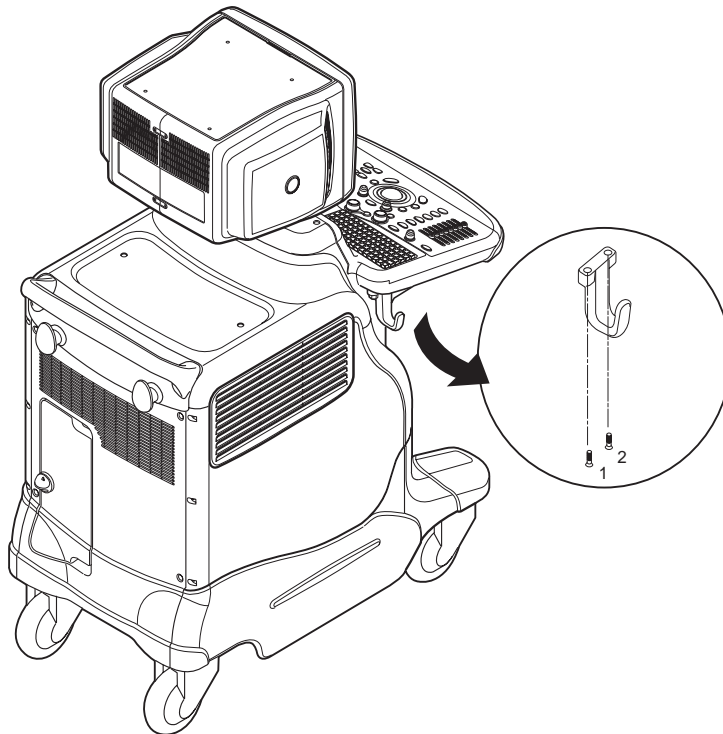

Figure 8-26 Removing ECG Cable Hook
- 2.) Unscrew two(1-2) screws from the bottom of the keyboard. Refer to Figure 8-26.